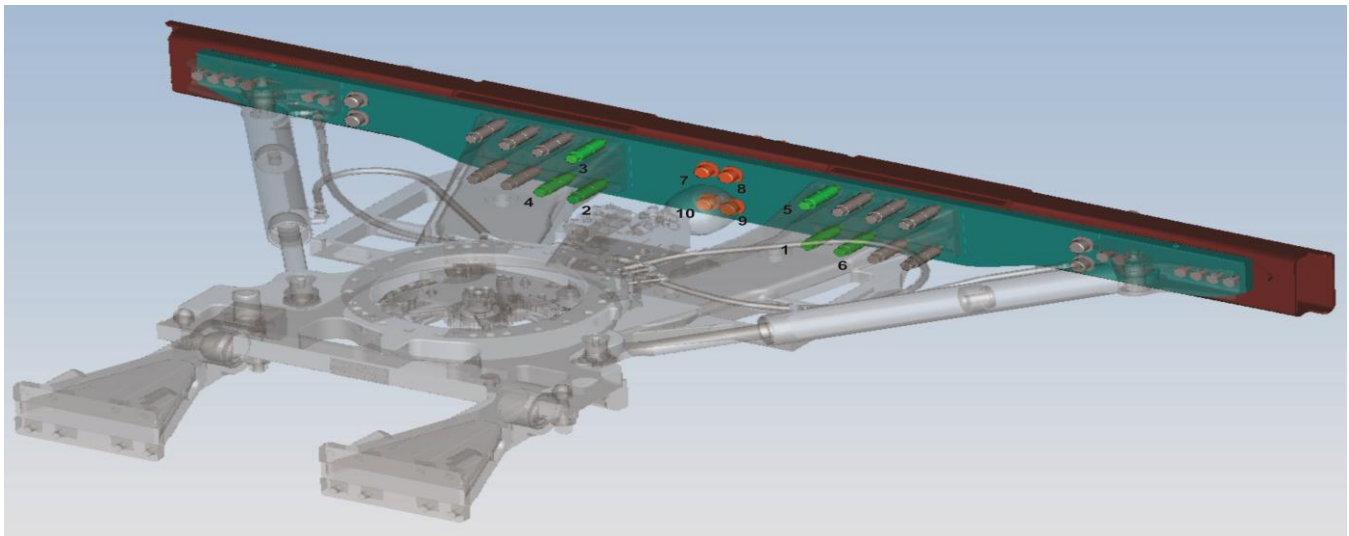

Figure 4: Bolts Requiring Inspection
1. Inspect 5/8" and 7/8" diameter articulated joint bolts highlighted in Figure 4.